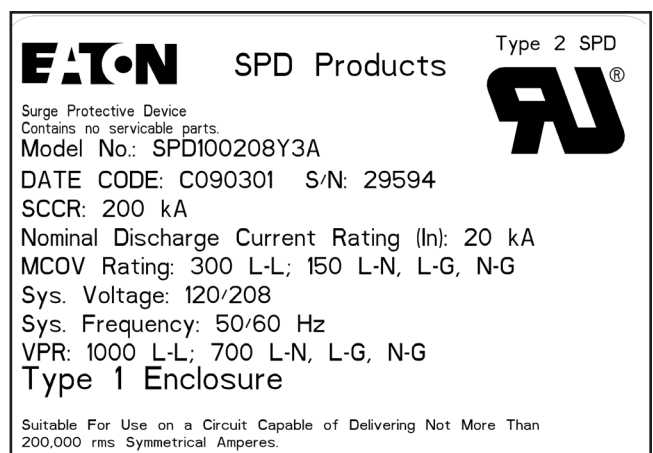

Figure 1. Product Label
These numbers appear as part of the product label attached to the front left side of the SPD. See Figure 1.
- Confirm that the system voltage and wiring configuration is the same as the SPD you are installing. Check the voltage rating label on the front left side of the SPD. See Figure 1.